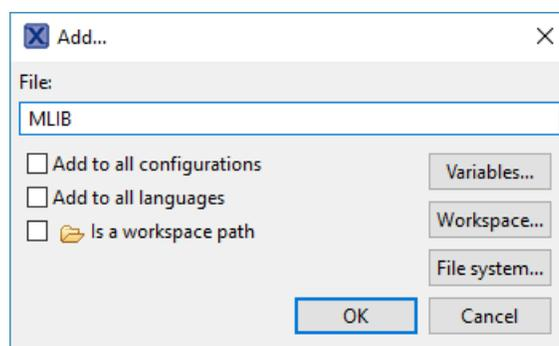

Figure 1-10. Library file inclusion
11. Type the following into the File text box (see Figure 1-10): `:mllib.a`